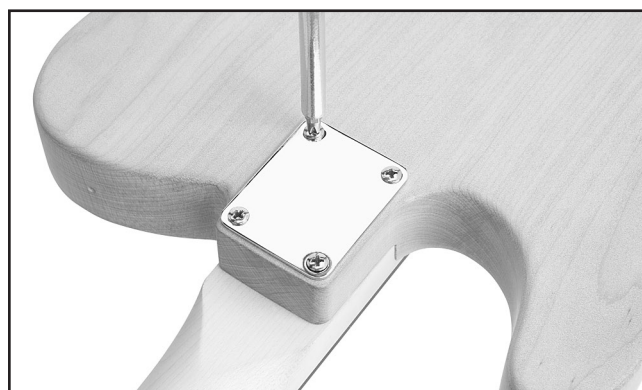

Figure 12. Example of fastening neck to body.
3. Fasten the four #10 x $1\frac{3}{4}$ " screws, but do not final tighten them (**Figure 12**).